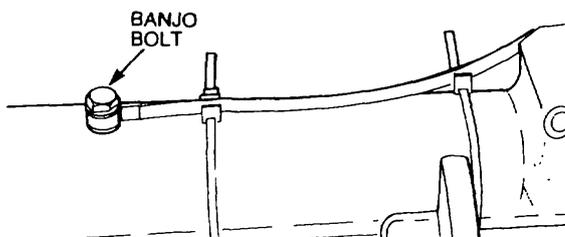

Figure 122 Front Axle Breather Hose Location
- b. Remove the banjo bolt securing the breather hose to the front axle casing (Figure 122). Discard the sealing washers.